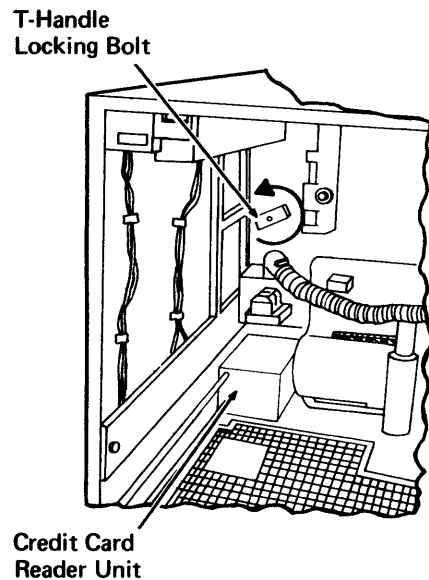

Figure 1
4. Reach in to the T-handle locking bolt (Figure 1) just above the card reader unit, and turn it counterclockwise at least six full turns (this releases the front cover and allows it to swing out on its hinges).